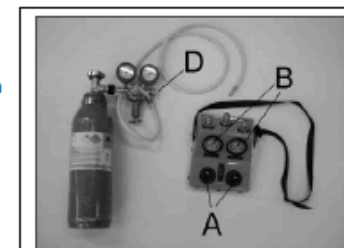

Figure 5 – AB-3 Controller
- 5.1.4 Inflate the air bags by pulling the lever (A) on the controller (Figure 5).